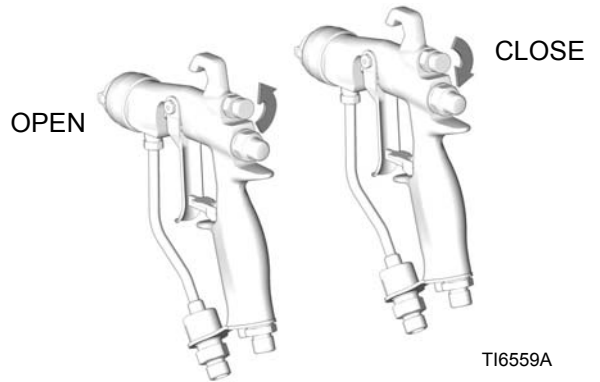

FIG. 13
4. Close off the pattern adjustment air by turning the knob clockwise (in) all the way. See FIG. 13. This sets the gun for its widest pattern.
For a narrower pattern, turn the pattern adjustment valve knob counterclockwise (out). See FIG. 13. If the pattern is still not narrow enough, increase the air pressure to the gun slightly or use a different size tip. (Not available for RAC tip guns.)